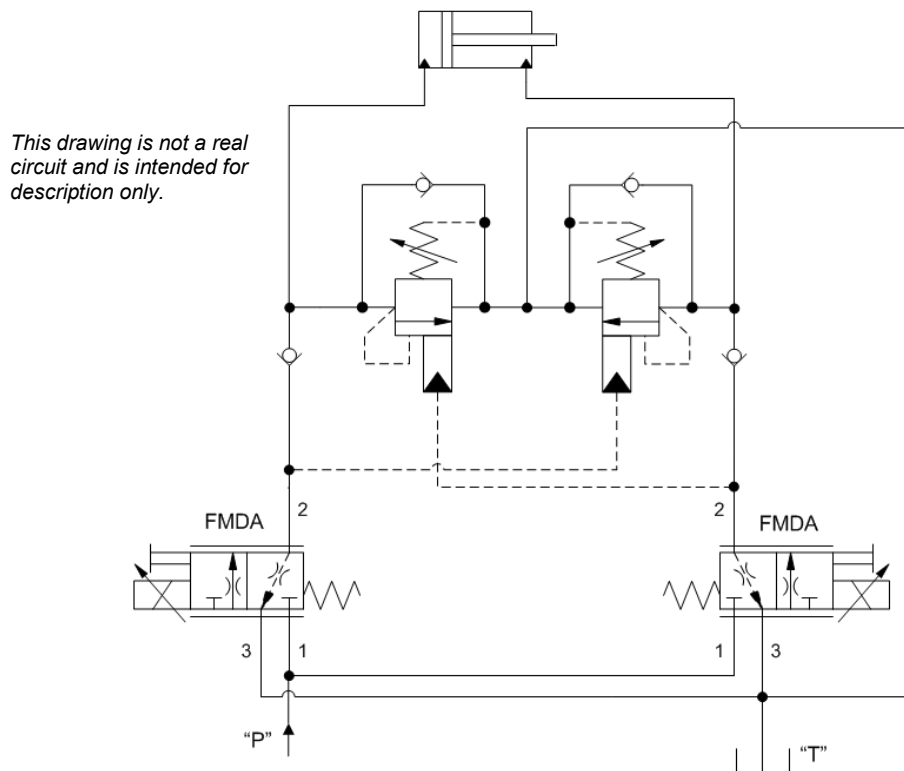

Figure 12.
- Two FMDA series valves can be used as the meter-in elements in a 4-way 3-position meter-in/meter-out cushion lock circuit where the return flow to tank is via a separate passage. (See Figure 12.)